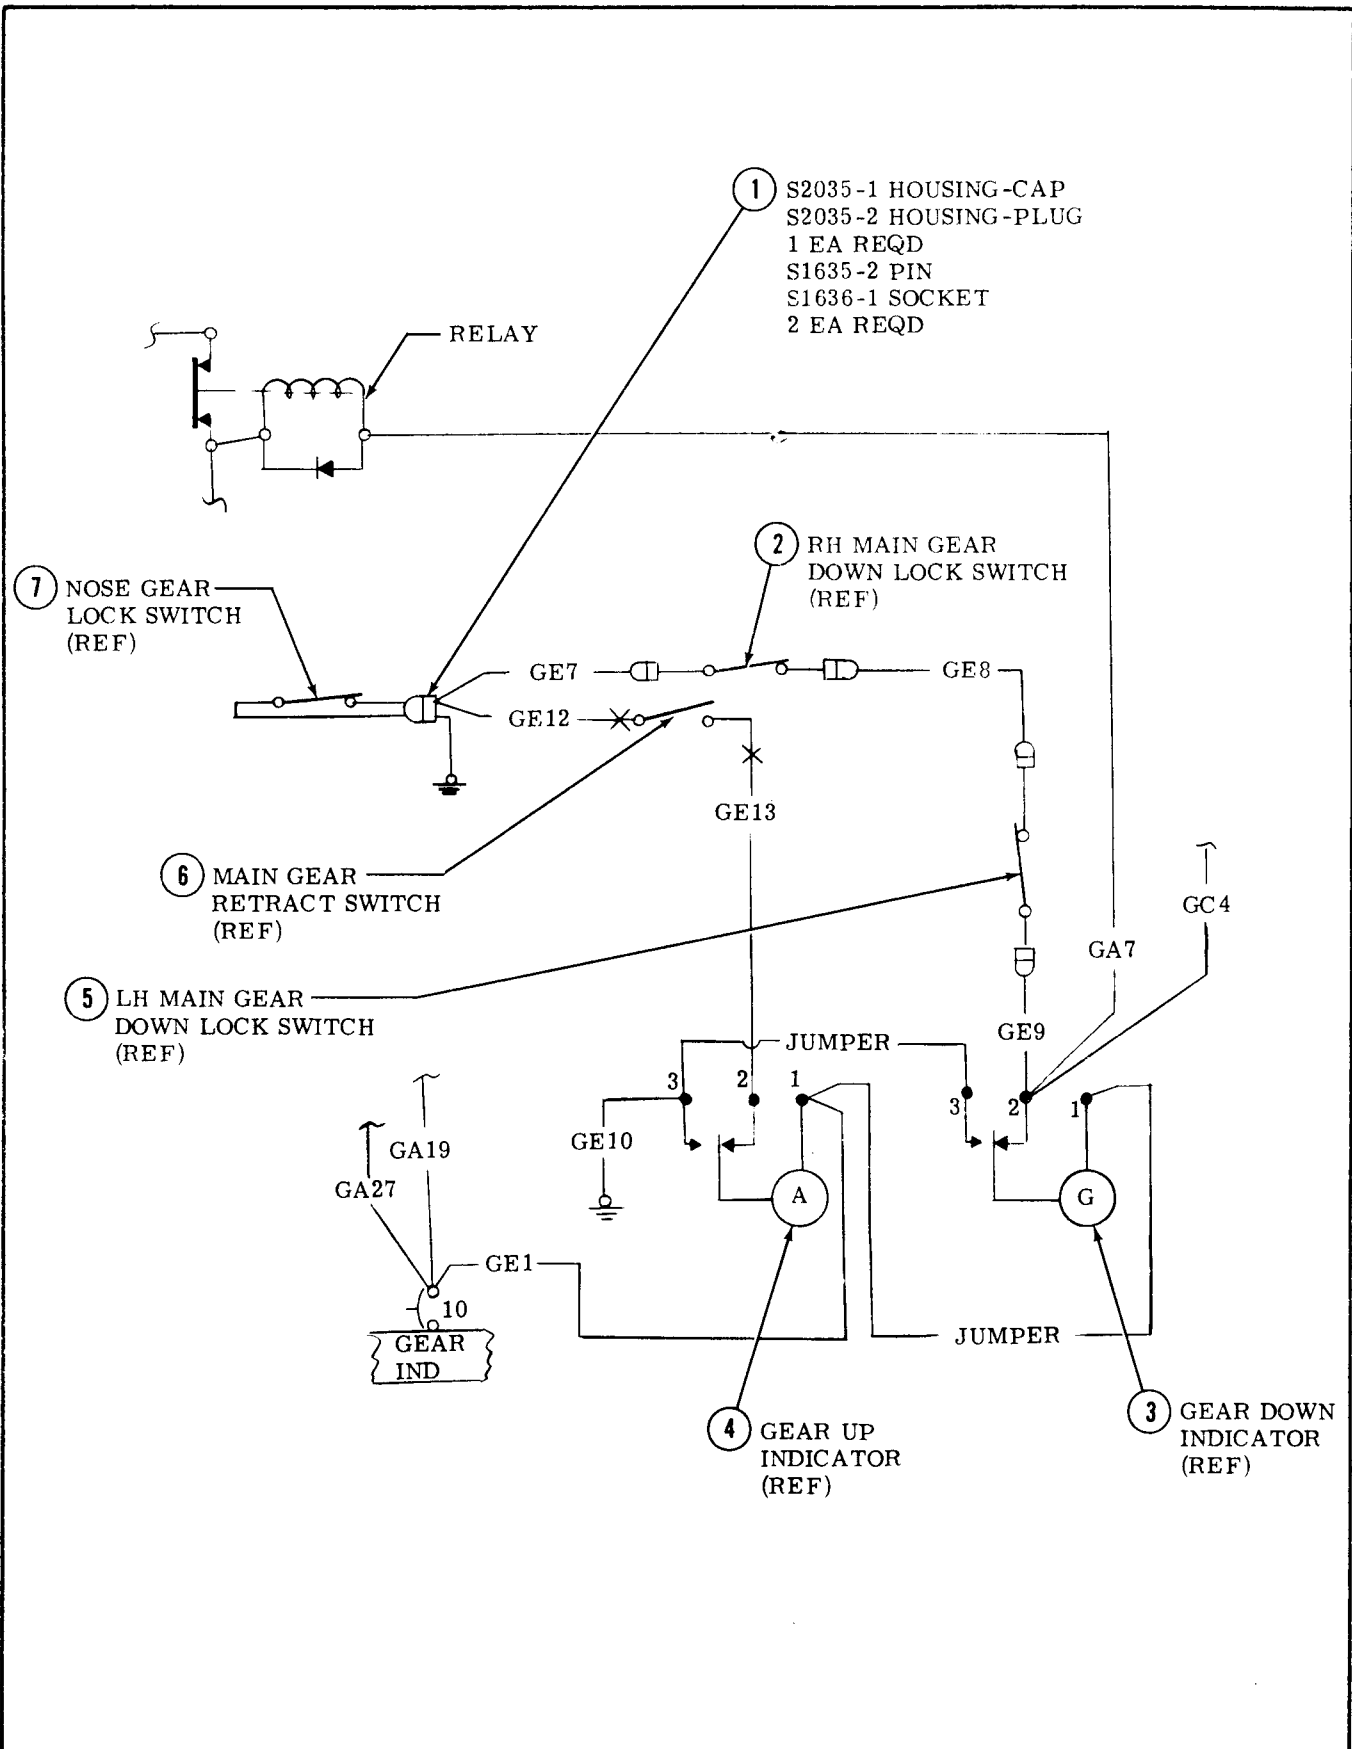

Figure 2. Wiring Diagram.
- (1) (Refer to detail c.) Trim template (17) along trim line (19) to clear flange of lock assembly (7).
- (2) Loosen bumper pad (21) on RH side of lock assembly (7) and align circles (20) with holes (22) as shown.
- (3) Secure template (17) to lock assembly with clear tape and with sharp pointed tool mark locations for four holes (18). Remove template.
- (4) Drill holes (18) then rout or file out material between appropriate holes to form slots. Tighten bumper pad (21).
- (5) (Refer to detail B.) Remove and retain rod end (11) and existing nut (23) from lock assembly (7). Note number of turns into lock link.
- (6) Install switch (14) and lock washer (15) under existing nut (23) replacing rod end (11) same number of turns as noted in step (5).
- (7) Install sleeving (10) over lead wires of switch (14) and secure to rod end (11) with sta-strap (16) as shown. Do not sharply crimp or tug lead wires near switch case.
- (8) (Refer to figure 2.) Loosen wire bundle from lock assembly to firewall, clip off existing housing from wires GE7 and GE12 to which gear up and gear down switches were removed. Install both wires in housing-cap (1) (S2035-1) using one pin (1) (S1635-2). Install one existing ground wire from either removed gear up or gear down switch in housing-cap (1) (S2035-1) using one pin (1) (S1635-2).
- (9) (Refer to figure 2.) Install housing-plug (1) (S2035-2) on lead wires of switch (7) with the two sockets (1) (S1636-1).